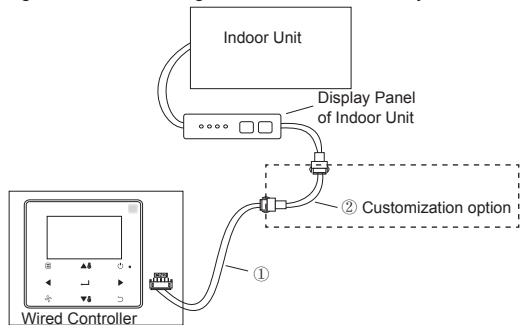

Fig.12
2-5-6 For the non 2nd generation DC IDU, the wired controller needs to be interconnected to the 5-core terminal on the IDU display panel through the CN2 port. See Fig. 12. The following standard connection cable set ① as configured for the following wired controller accessory.